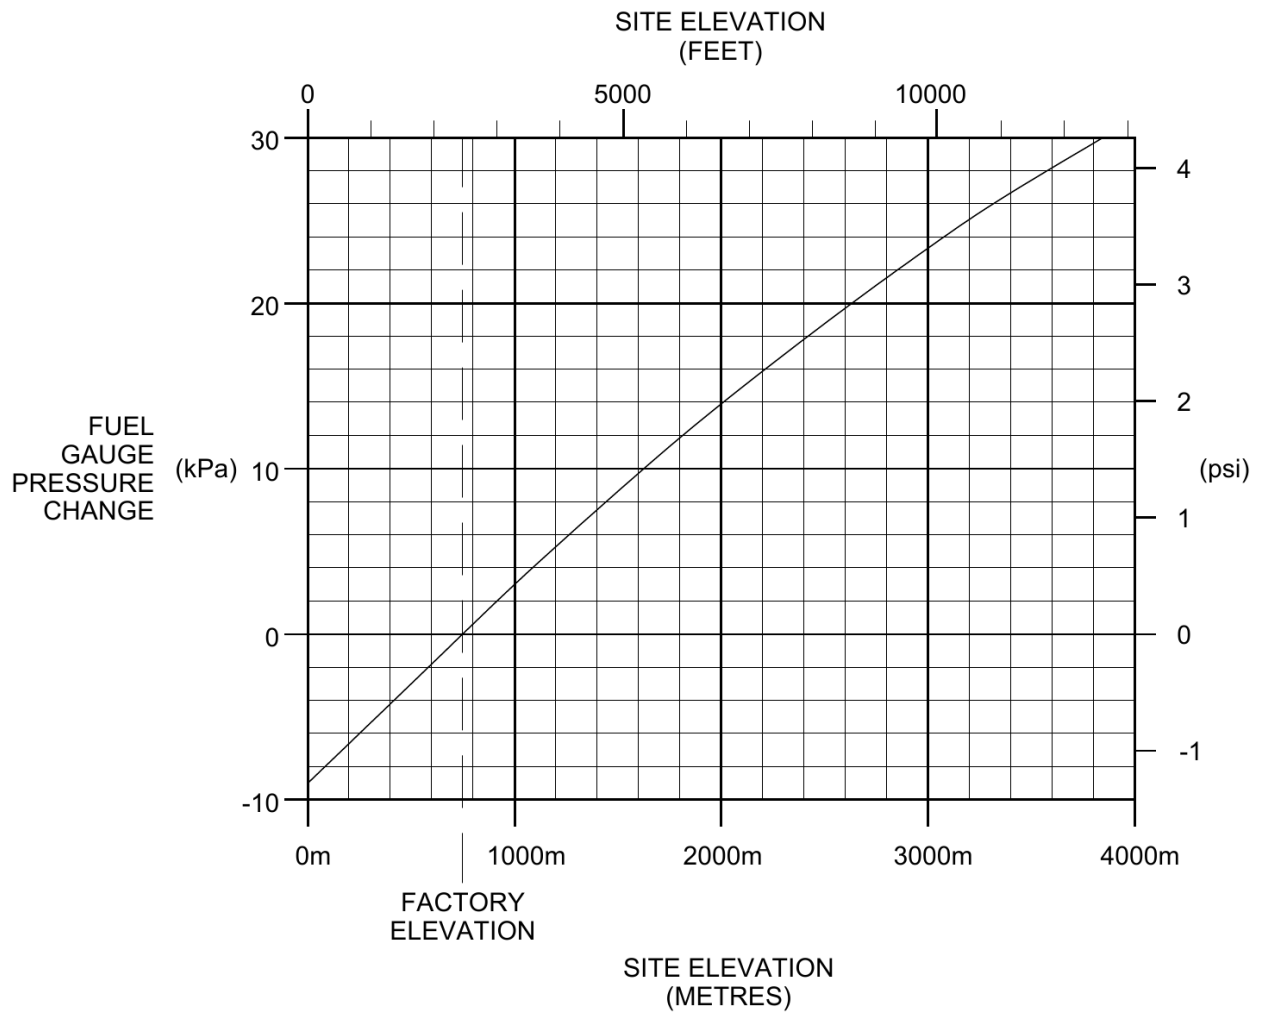

Figure 10 – Altitude Adjustment
- a) Determine the altitude of the installation site and mark that number on the graph in Figure 10.